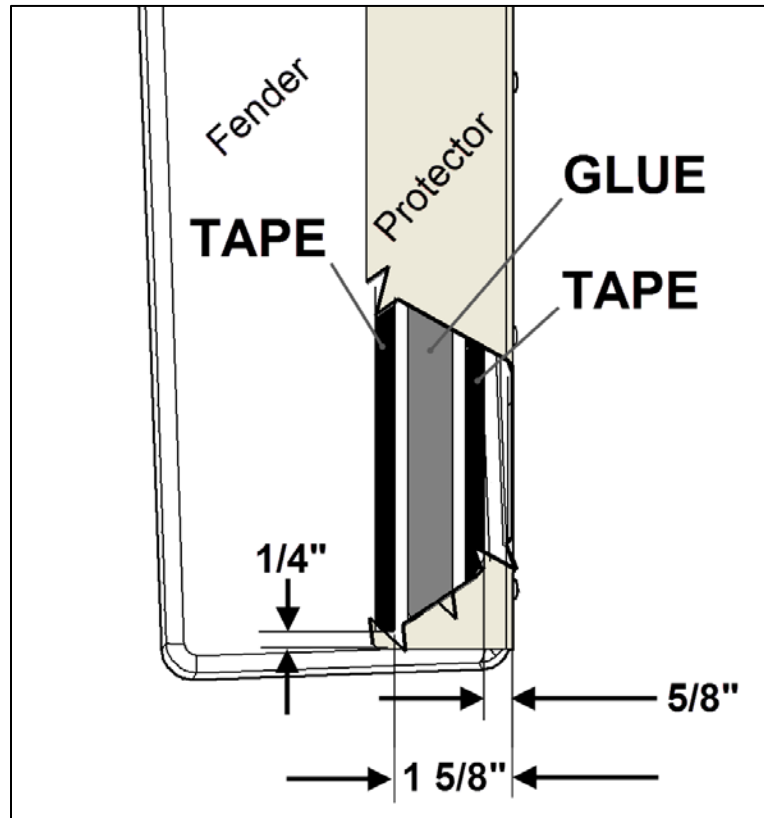

FIGURE 4 : TAPE PLACEMENT UNDER PROTECTOR.
6. Perform a dry fit of the protector on the fender. Mark tape positions with masking tape according to Figure 4.
9. Apply a bead of Simson glue between the tapes Figure 4.